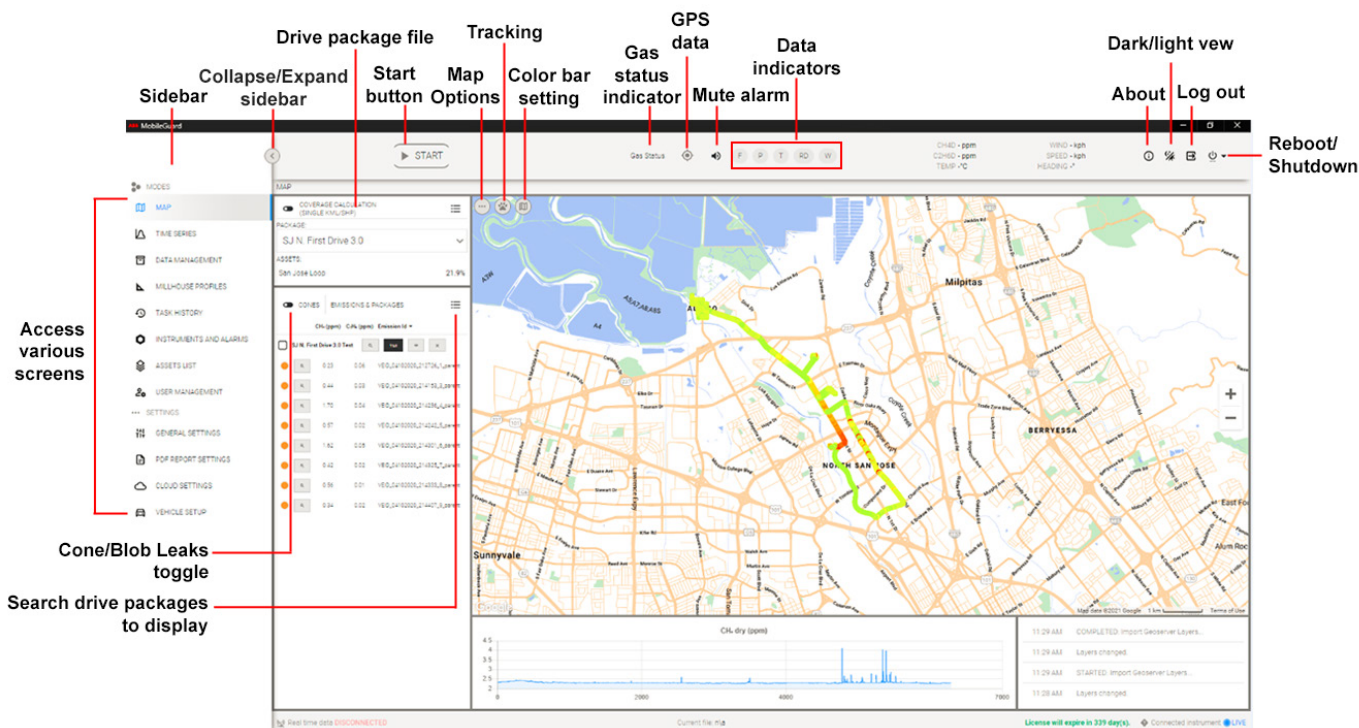

Figure 8 Map Screen
On the sidebar, select **Map** to access the Map screen. See Figure 8.
- **Drive package file** – Drive package/asset used for calculating survey coverage. Figure 8 shows an example of *San Jose Loop* for asset used for survey coverage.